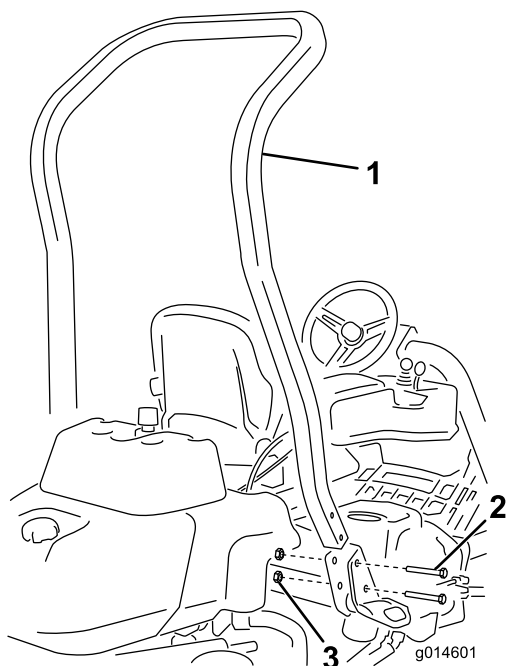

Figure 3
3. Install the roll bar into the pockets on each side of the machine, using 4 bolts (1/2 x 3-3/4 inches) and 4 flange-nuts (1/2 inch) (Figure 3).